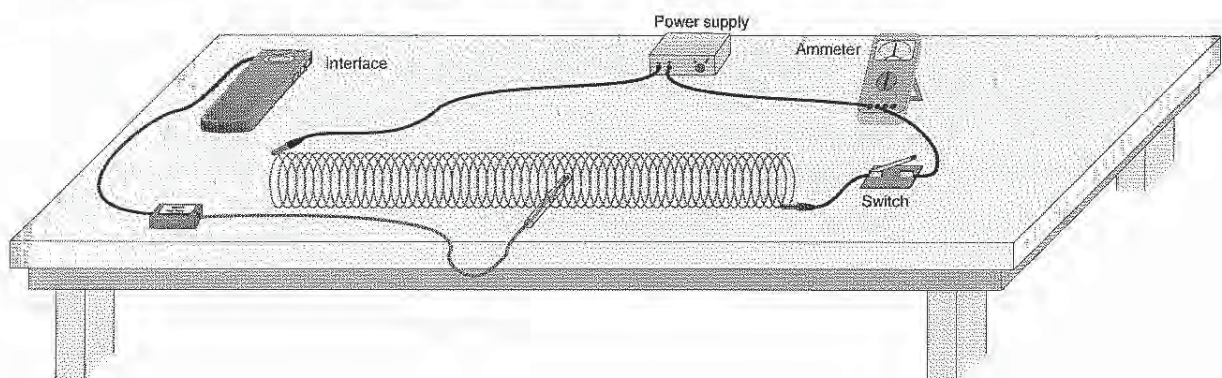

Figure 1
3. Set up the circuit and equipment as shown in Figure 1. Wires with clips on the end should be used to connect to the Slinky. If your power supply has an accurate internal ammeter you do not need an additional external ammeter.
For the second part of the experiment, you will determine the relationship between the magnetic field in the center of a coil and the number of turns of wire per meter of the solenoid. You will keep the current constant. Leave the Slinky set up as shown in Figure 1. The sensor will be oriented as it was before, so that it measures the field down the middle of the solenoid. You will be changing the length of the Slinky from 0.5 to 2.0 m to change the number of turns per meter.